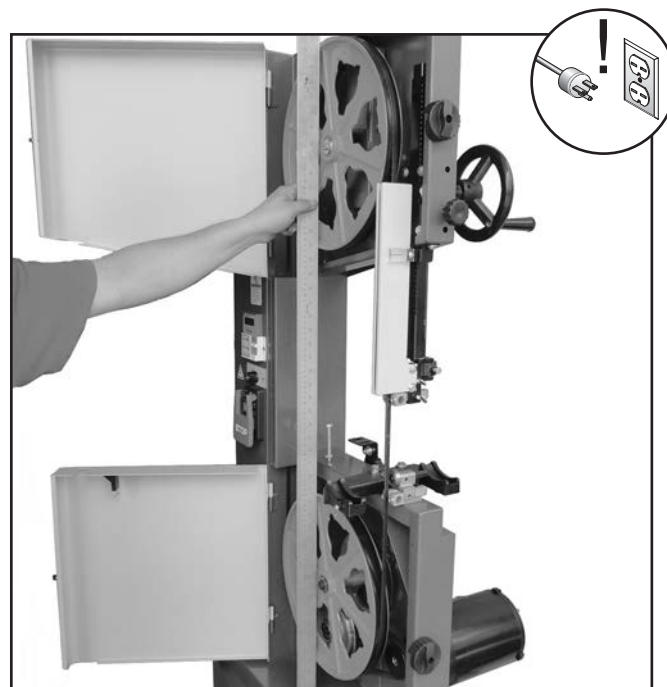

Figure 51. Checking wheel alignment with a straightedge.
2. With the blade on and properly tensioned, hold a straightedge close to the center of both wheels. Make sure the straightedge fully extends across the wheels as shown in **Figure 51**.